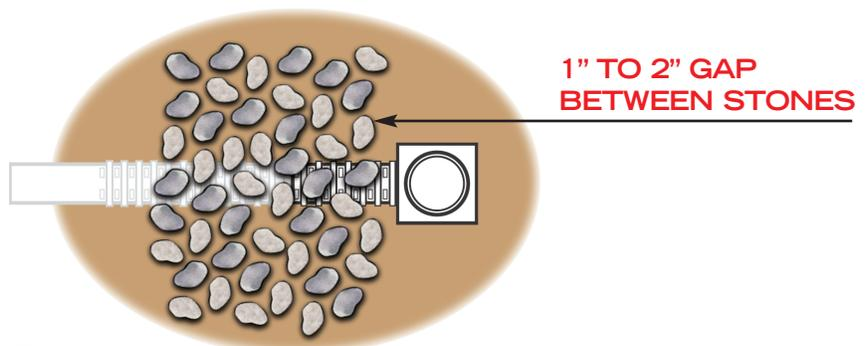

Figure 10
10. With the Centipede™, Snorkel™ and piping in place, cover it with 4" to 6" stones. The stones should be placed on the Centipede™ first and they should continue outward completely covering the bottom. Place the stones loosely on the bottom—there should be a 1" to 2" gap between the stones to allow unrestricted water flow out of the Centipede™. (Figure 10)